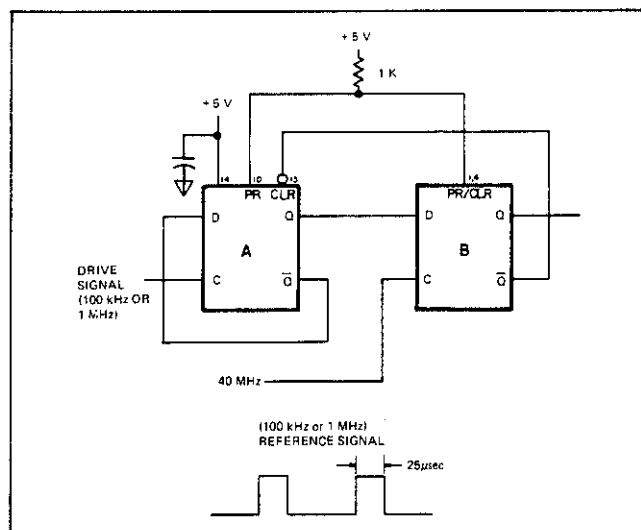

Figure 8-14. Pulse Gate.
8-127. Each pulse gate is comprised of two flip-flops (see Figure 8-14). The drive signal (100 kHz or 1 MHz) clocks the first flip-flop (A) while the second flip-flop (B), in both the 100 kHz or 1 MHz pulse gate, is clocked by a 40 MHz signal. The CLEAR line of flip-flop A is controlled \bar{Q} of flip-flop B. Both flip-flops A and B are clocked by low-to-high transitions. When the Q output of A goes high, the next clock of B establishes a high at Q and low at \bar{Q} . The low of \bar{Q} from B clears A (Q low). The next 40 MHz clock to B drops its Q output low and puts a high on CLEAR of A. The result is the output of the pulse gate (Q of flip-flop B) goes high at one 40 MHz low-to-high transition and goes low the next low-to-high transition creating a pulse the width of a 40 MHz cycle. The sequence of generating a pulse is repeated every low-to-high transition of the drive signal (100 kHz or 1 MHz) which clock flip-flop A.